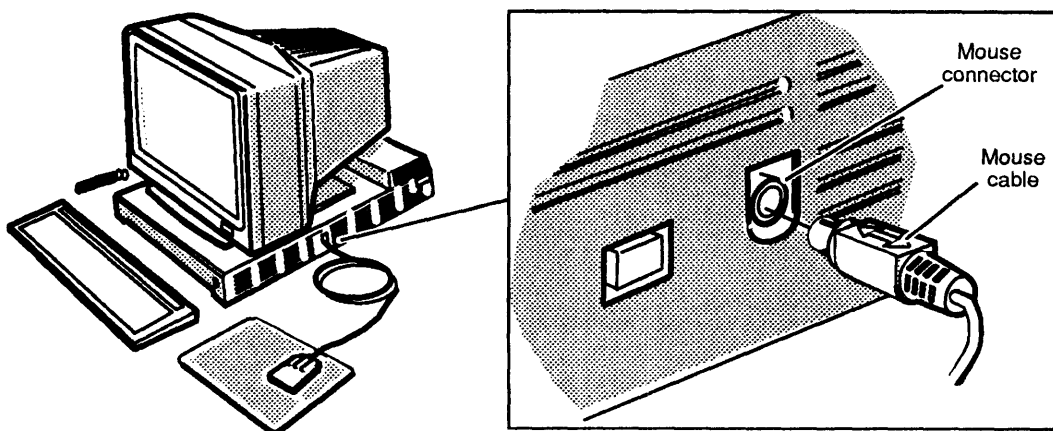

Figure 4-4 Disconnecting the Mouse Cable from the Mouse Connector
7. Disconnect the mouse cable from the right side of the computer unit as shown in Figure 4-4 .